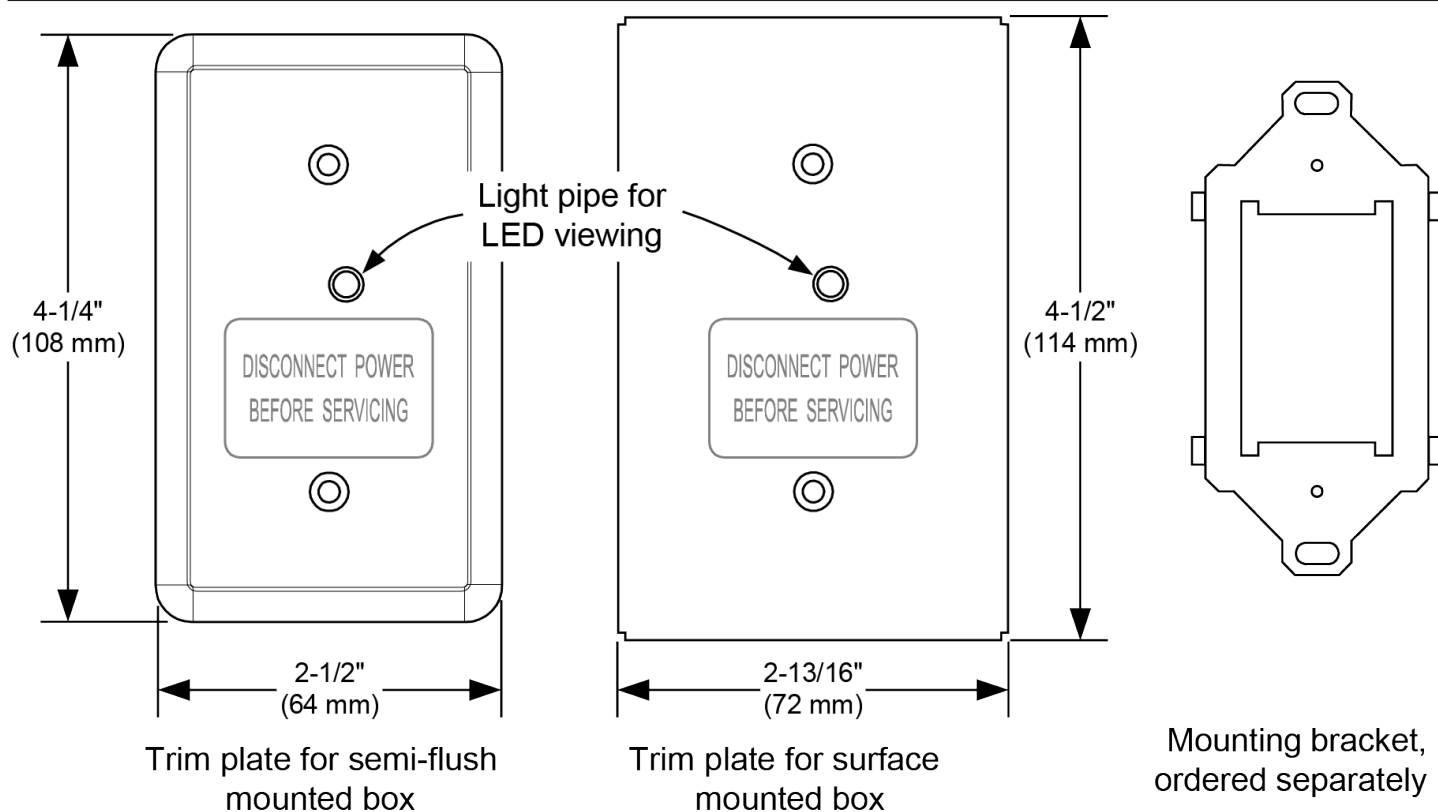

Fig 3: Optional Trim Plates and Mounting Bracket for Visible LED
**Note:** The following products are illustrated in Figure 3